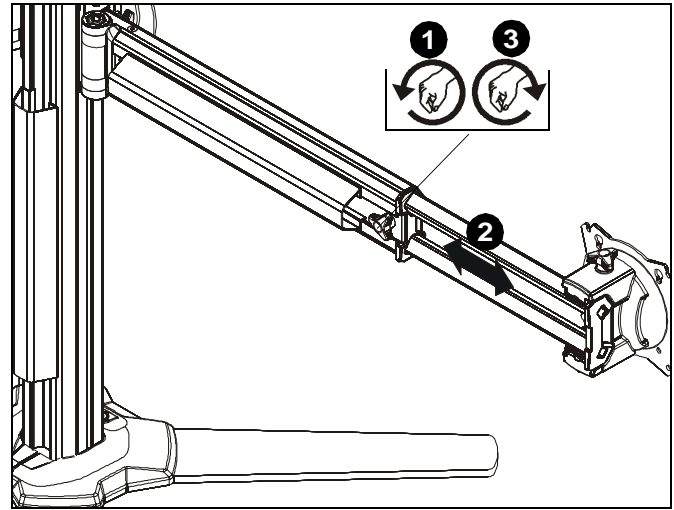

Figure 12
- Turn arm extension adjustment knob counter-clockwise on arm to be adjusted. (See Figure 12)
- Adjust arm extension as desired. (See Figure 12)
- Turn arm extension adjustment knob clockwise on adjusted arm to lock position. (See Figure 12)